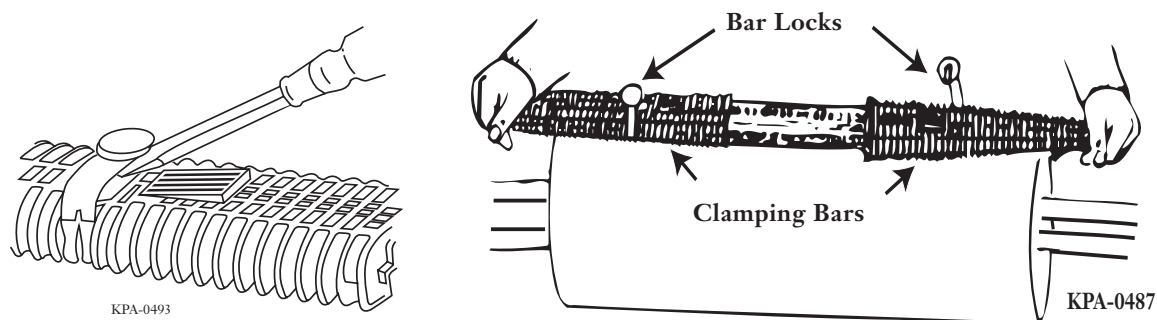

Figure 45 — Install Clamping Bars
**Step 3** Place the clamping bars on the closure cover as shown in Figure 45.